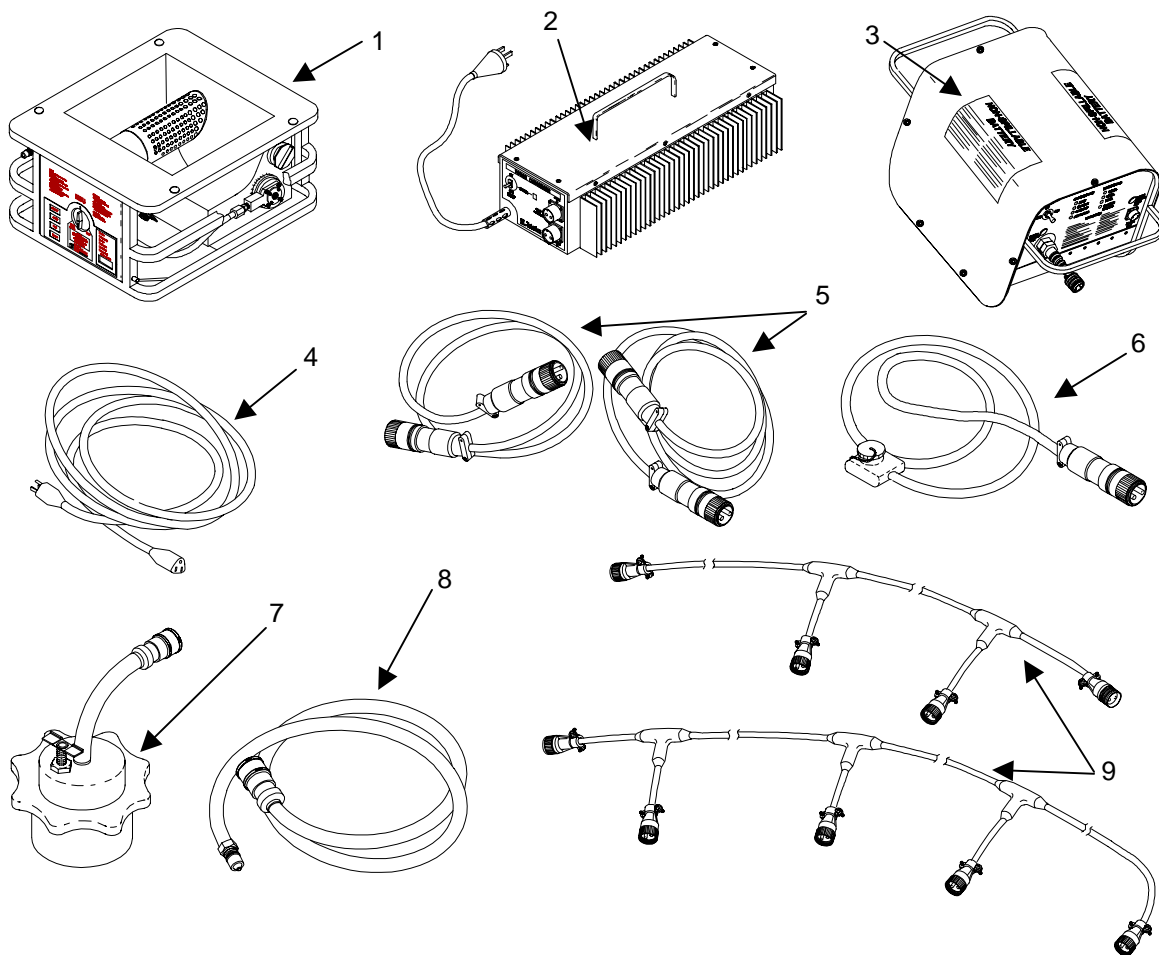

Figure 1-1 Modern Burner Unit and Associated Equipment
**SCOPE (Refer to Figure 1-1).**